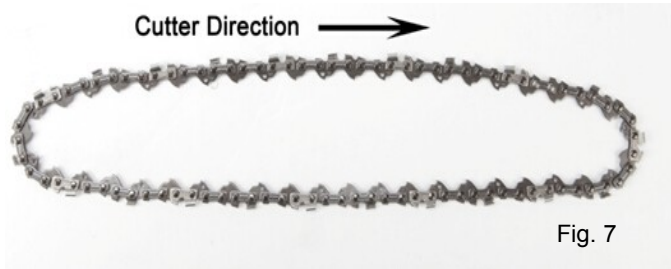

Fig. 7
- Lay out the new saw chain in a loop and straighten any links. The cutters should face in the direction of the chain rotation. If they face backwards, turn the loop over. (Fig. 7)